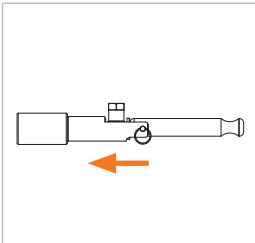

Figure 3
- ▶ Grip the connector by its base unit (Pos. 1) and plug it up to the stop straight into the test piece (*Figure 3*). Doing so will prevent any damage to the front seal caused by any sharp edges on the test piece and ensure a correct connection.